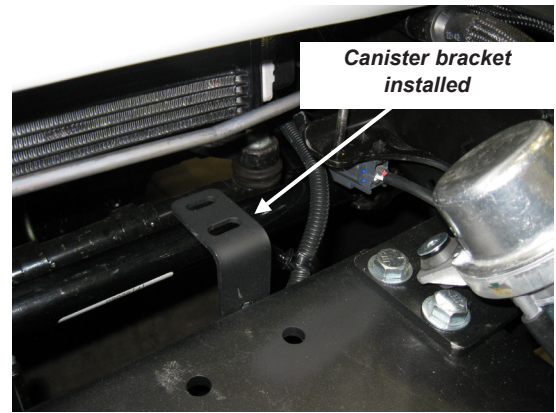

Figure 13
11. Attach the Canister Relocation Bracket to the rear of the Bumper as shown in Figure 13. Use 1/4-20 x 1" capscrews, flat washers and lock nuts. Do not tighten yet.